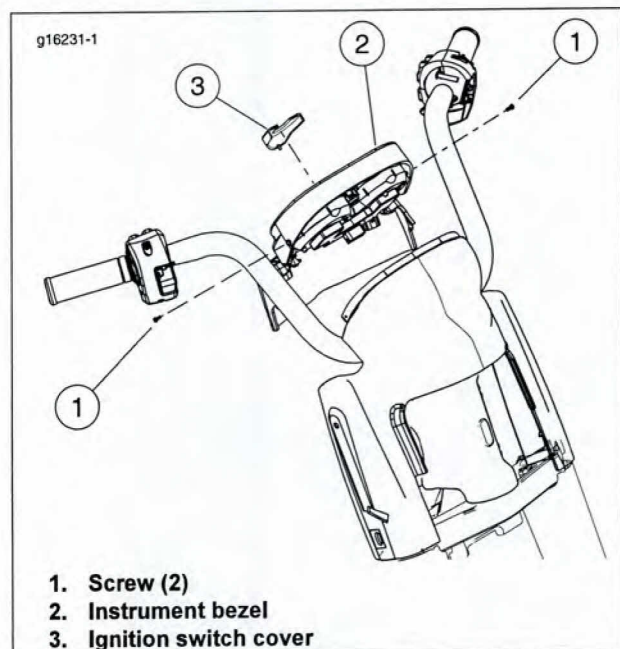

Figure 1. Instrument Bezel
- b. See Figure 1. Lift the rear of the ignition switch cover (3). Remove cover.
- c. Remove screws (1) on each side of instrument bezel.
- d. Lift instrument bezel (2) to remove.